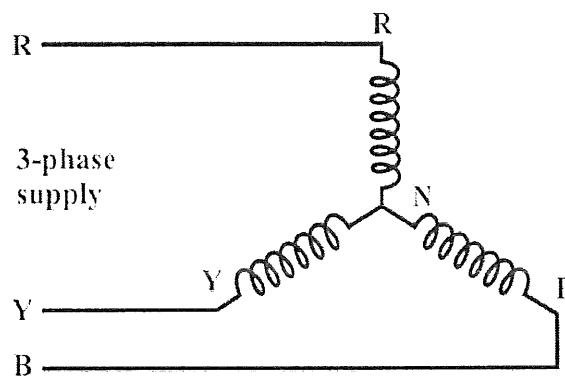

Figure 1
- d) Explain the rotation direction of a 3-phase induction motor with reference to the schematic diagram of Figure 1. Let phase R lead phase Y by 120° , and phase Y lead phase B by 120° . (5 marks)